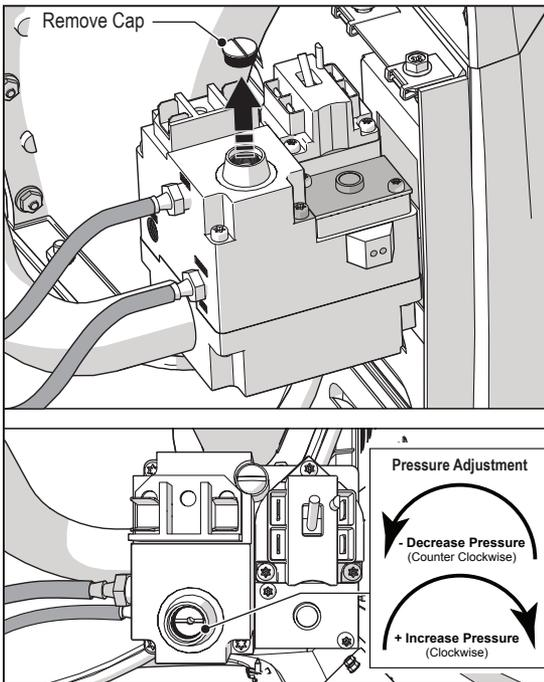

Figure 33. Adjust Offset Pressure
- If the offset pressure is incorrect, adjust pressure by removing the gas valve sealing cap and rotating the plastic screw using a blunt tool, such as a flat head screwdriver (see Figure 33). To make an adjustment, rotate 1/4 turn in either direction.